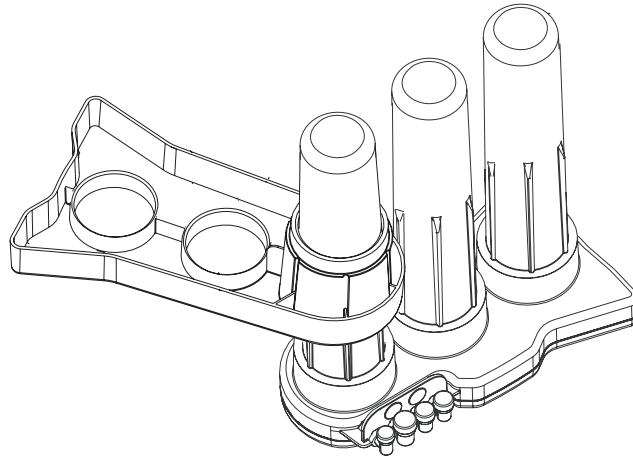

Figure 8
- D. Securely insert O-ring end of elements into manifold. See Figure 8.